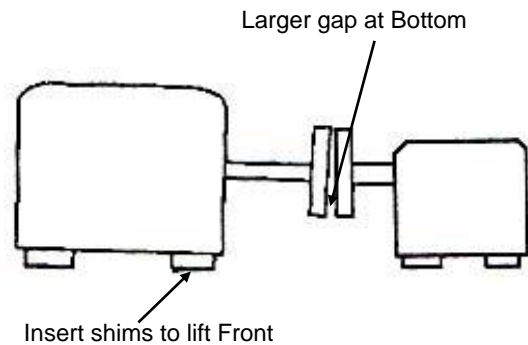

FIG 34.
- When the gap is bigger at the bottom than at the top of the coupling, **lift the driver or driven at the front.** (Fig 34 on the next page)